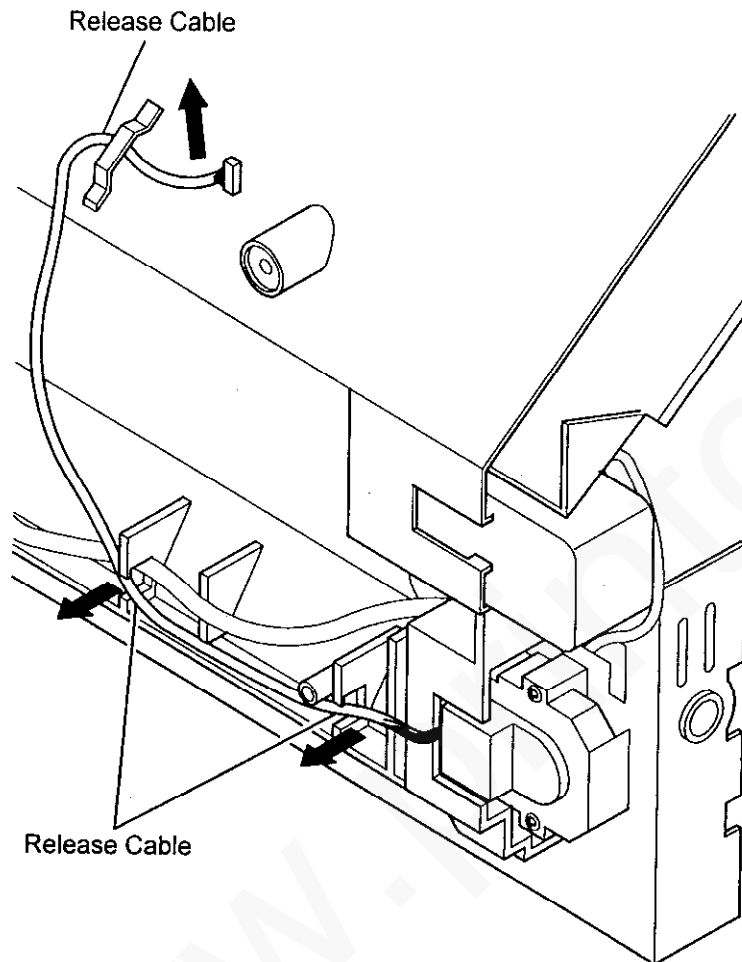

Figure 2 Releasing the Cable
5. Release the cable from the clamp (Figure 2).